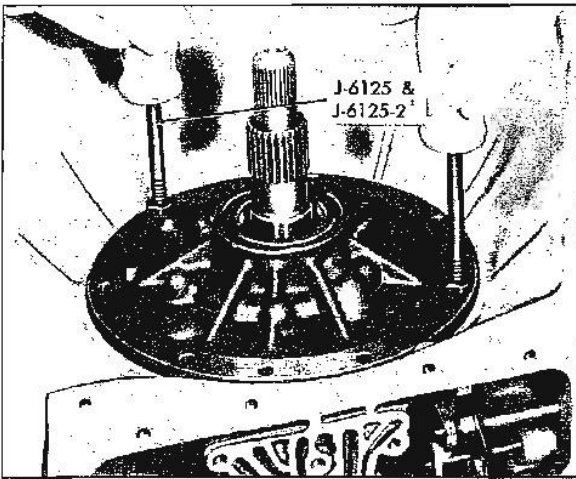

Fig. 7B-54 Removing Oil Pump
1. With transmission in vertical position, remove eight oil pump attaching bolts. Install slide hammers J-2619 into threaded holes in pump, loosen pump and remove pump and gasket (Fig. 7B-54).